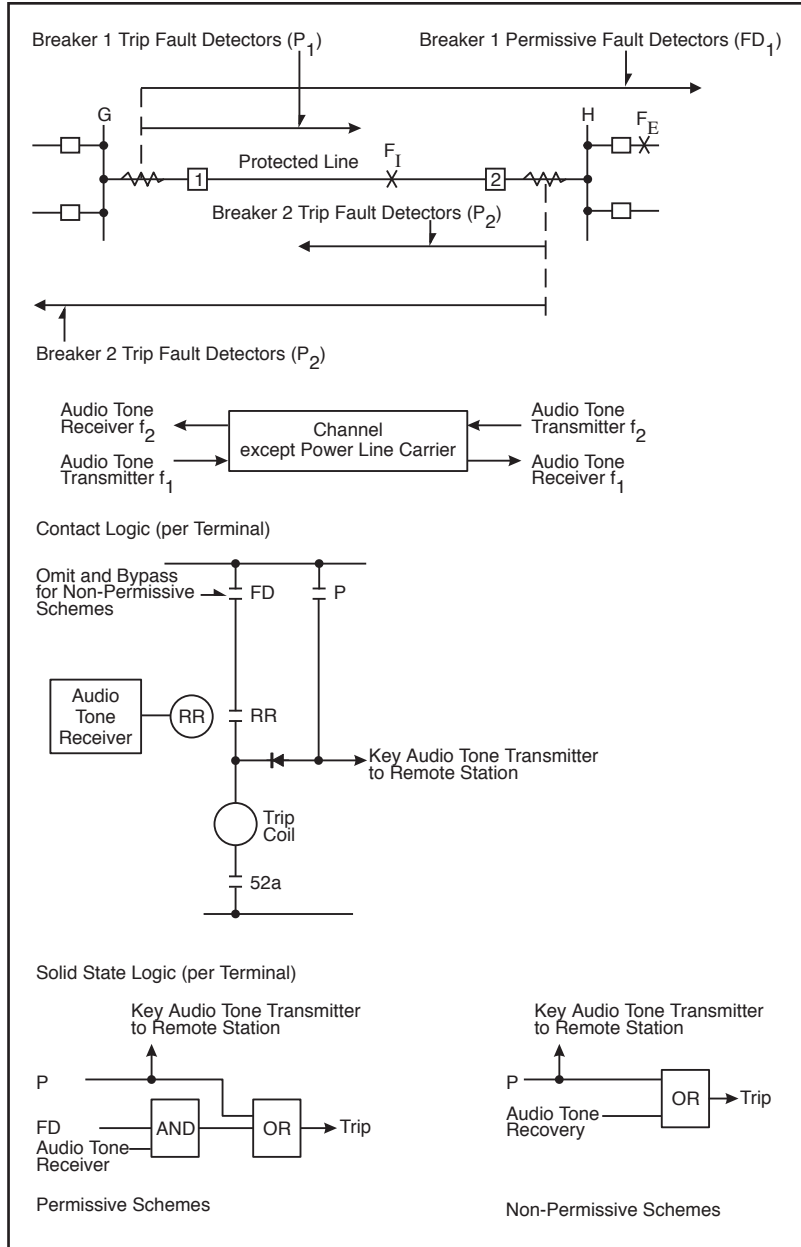

Figure 3-4. Basic Logic Diagrams for Underreaching Transfer Trip Systems.
For overreaching systems, the directional phase and ground trip fault detectors (P) must be set to overlap within the transmission line and not overreach any terminals (see Figure 3-4).
Though it is the least complex, the non-permissive system is rarely used because of the high potential for false outputs from the channel, which would cause incorrect tripping. If a non-permissive system is used, the channel considerations should be as described later for direct trip systems. The system is made permissive by the additional set of phase and ground overreaching fault detectors (FD), which must operate for all internal faults (see Figure 3-4).
Operation of the underreaching transfer trip scheme shown in Figure 3-4 is described in Table 3-2 for external and internal faults.